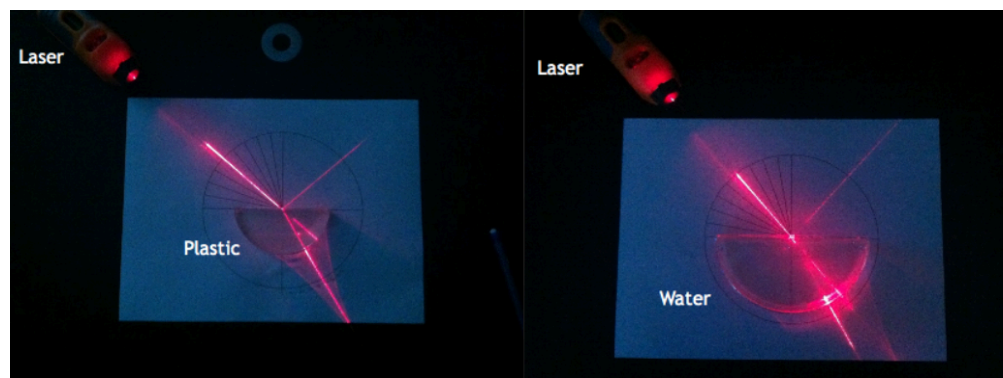

Figure 5.7: Experimental setup for Snell's law
2. Aim the laser along the normal; mark the undeviated exit point to verify alignment as in Figure 5.7.